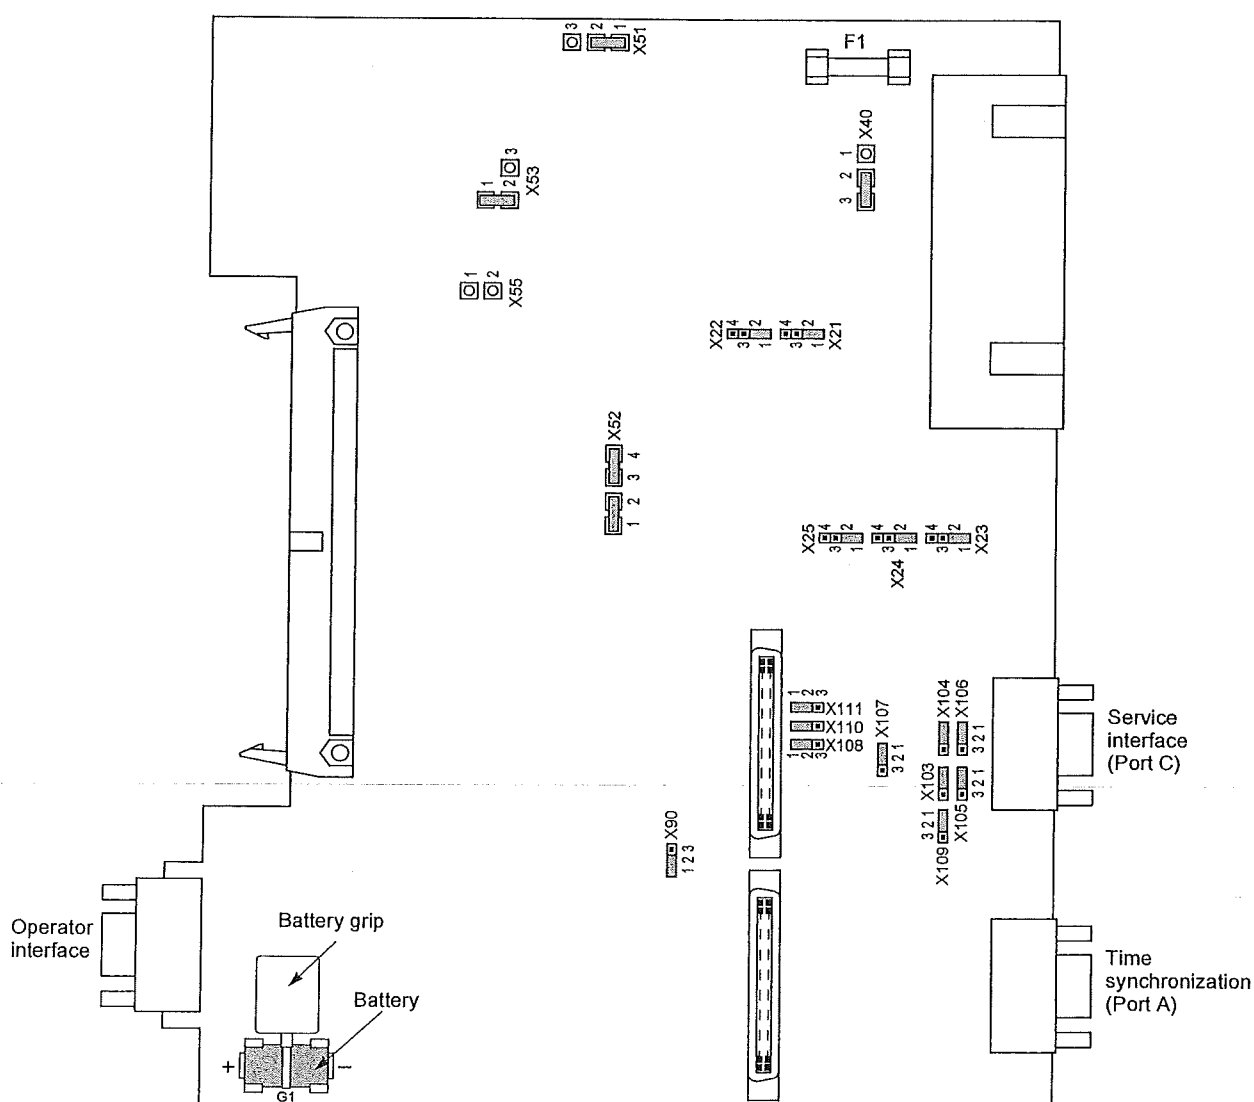

Figure 3-6 Processor board CPU with-representation of the jumper settings required for the module configuration
Spare Parts	Spare parts may be the backup battery that maintains the data in the battery-buffered RAM when the voltage supply fails, and the miniature fuse of the internal power supply. Their physical location is shown in Figure 3-6. When exchanging the battery or fuse, please observe the hints given in the System Manual (order no. E50417–H1176–C151) in Chapter “Maintenance”.
- ☐ At one end, disconnect the ribbon-cable between the front cover and the CPU board (❶). To disconnect the cable, push up the top latch of the plug connector and push down the bottom latch of the plug connector. Carefully set aside the front cover.
- ☐ Disconnect the ribbon-cables between the CPU board (❶) and the I/O-11 board (❷).
- ☐ Check the jumpers according to Figures 3-6 to 3-10 and the following notes. Change or remove the jumpers as necessary.
The design of a jumper setting for the processor board CPU is shown in Figure 3-6. The preset rated voltage of the integrated power supply is checked according to Table 3-2, the quiescent state of the life contact is checked according to Table 3-3, the pickup voltages of the binary inputs BI1 through BI5 are checked according to Table 3-4, and the integrated RS232/RS485 interface is checked according to Tables 3-5 to 3-7.